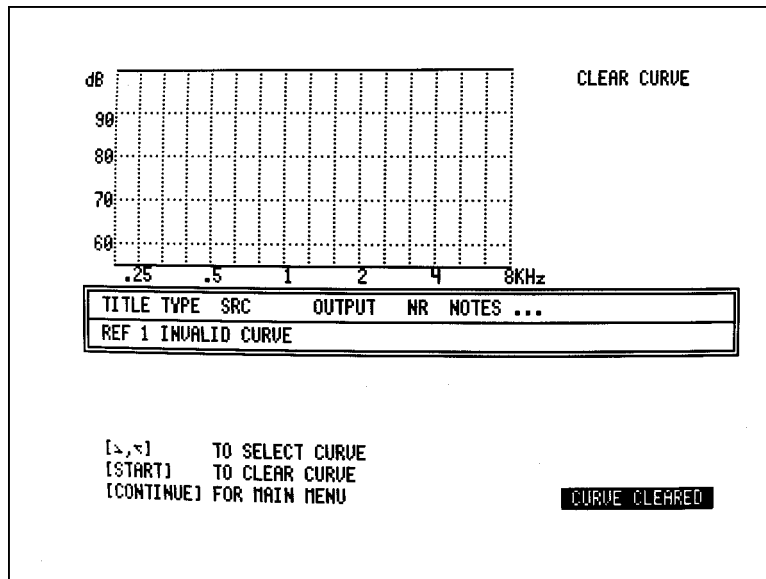

Figure 7.12.9—Clear Curve display
2. Press [START] to enter Clear Curve Mode. See Figure 7.12.9